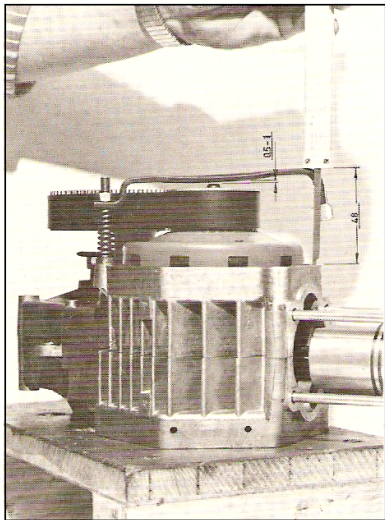

fig. 13
- the distance between outside starterleaf spring (on top) and the crankcase housing is 48 mm. See fig. 13.
- The distance between starter leaf spring and the bronze thrust piece is 0,5-1,0 mm. See fig. 13.